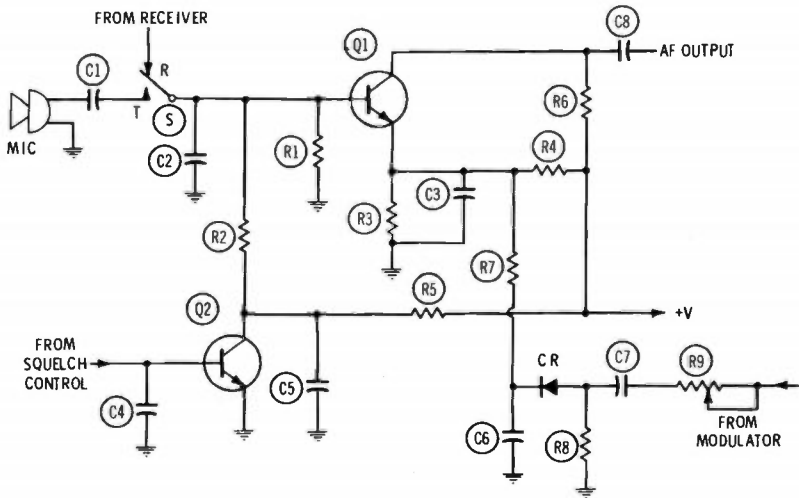

Fig. 4-12. Example of microphone circuit of solid-state transceiver.
Most solid-state CB transceivers are designed for use with a high-output ceramic microphone. In the example of the microphone amplifier circuit shown in Fig. 4-12, the microphone output is fed through C1 and a section of the transmit-receive relay (S) to the base of af-amplifier transistor Q1. The capacitance value of C1 limits low-frequency response, and that of C2 attenuates the higher frequencies.
Although it is not shown in Fig. 4-12, microphone cables are often equipped with a plug so that the microphone can be quickly connected and disconnected.